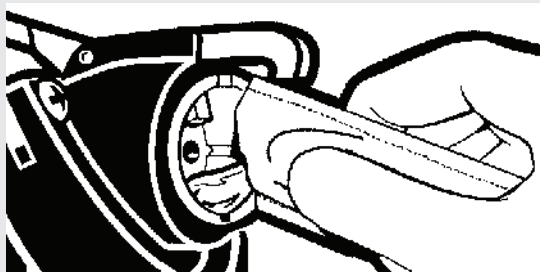

Figure 1.
2. Free the perforated section in upper section of the box (near the locking tab that retained the lid), and bend it down to allow the hoses to enter into the two cutouts provided. (See figure 1)